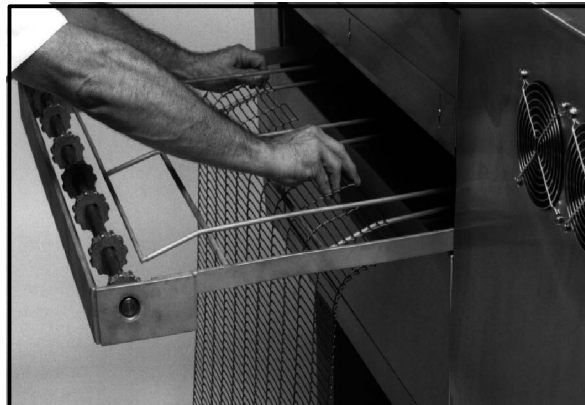

Figure 9
1. Start from the right hand side of the oven, lower level first. Unroll the belt as shown in Figure 9, otherwise the belt will be upside down. Leave about one foot hanging out on the left side